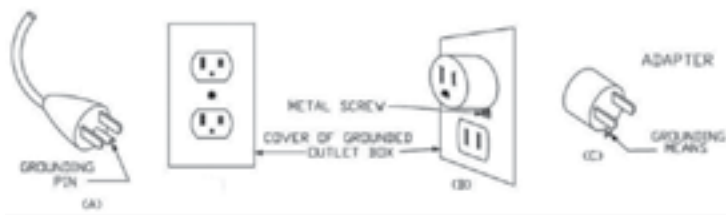

Figure 65.1
14. This GARMENT STEAMER is for use on 120 volts. The cord has a plug as shown at A in Figure 65.1. An adapter, as shown at C, can be used to connect three-blade grounding-type plugs to two-slot receptacles (it is not included with your product). The green grounding lug extending from the adapter must be connected to a permanent ground such as a properly grounded outlet box. An adapter should not be used if a three-slot grounded receptacle is available.